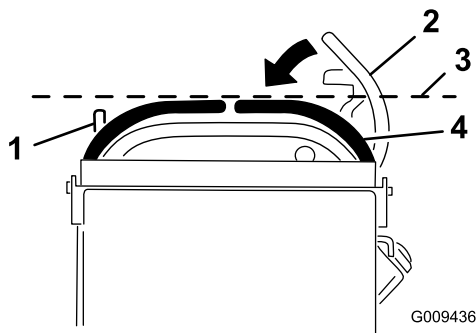

Figure 71
3. Push the right motion-control lever down out of the neutral-locked position (Figure 71).
4. Check if the right motion-control lever aligns horizontally with the left motion-control lever (Figure 71).